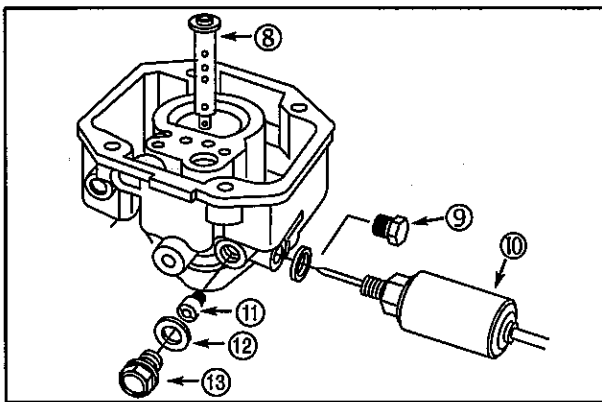

Fig. 100
4. Remove anti-afterfire solenoid (10) or plug (9), Fig. 100.
5. Remove fixed jet plug (13) and washer (12).
6. Remove fixed main jet (11) with Jet Screwdriver #19062.
7. Remove emulsion tube (8).